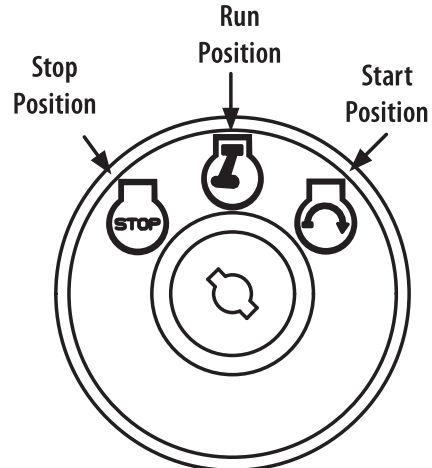

Figure 5
5. Turn the ignition key clockwise to the START position. After the engine starts, release the ignition key. It will return to the RUN position (Figure 5).